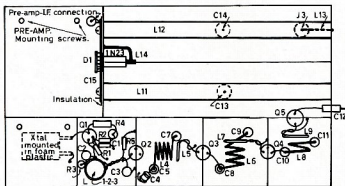

FIG. 2. CONVERTER LAYOUT.
The diode pin contact may be salvaged from an old bakelite octal wafer socket or may be fashioned from a small piece of tinplate. Solder a length of 18 gauge tinned copper wire to the contact, bend as shown in Fig. 2 and solder to partition 2 in the signal trough-line. It is not advisable to use a good diode while soldering as it could be damaged by heat. Assemble the diode mount C15 and check for shorts before insertion of the diode.
- C15—Diode by pass capacitor (Fig. 2 and text).
- L10—1 inch collector lead of Q5 (Fig. 2 and text).
- L11, L12—¼ inch outside diameter tube, ¼ inch long, Fig. 2.
The oscillator section should now be soldered to the trough-line portion of the converter. Mount Q5 with the collector lead as shown in Fig. 2. The overall length of the lead to the top of the feedthrough capacitor should be about one inch. Apply power and peak C10 for maximum Q5 collector current. Adjust link L9 for 2.5 to 3 mA. Q5 collector current, re-checking C10 tuning. Mount the i.f. pre-amplifier unit and connect. Tune the LO cavity screw for maximum mixer diode current, which should be 0.5 to 1 mA. If the tuning of the early LO stages is checked, the tuning may appear very, very broad, being due to saturation in the multipliers. It is safer to check each